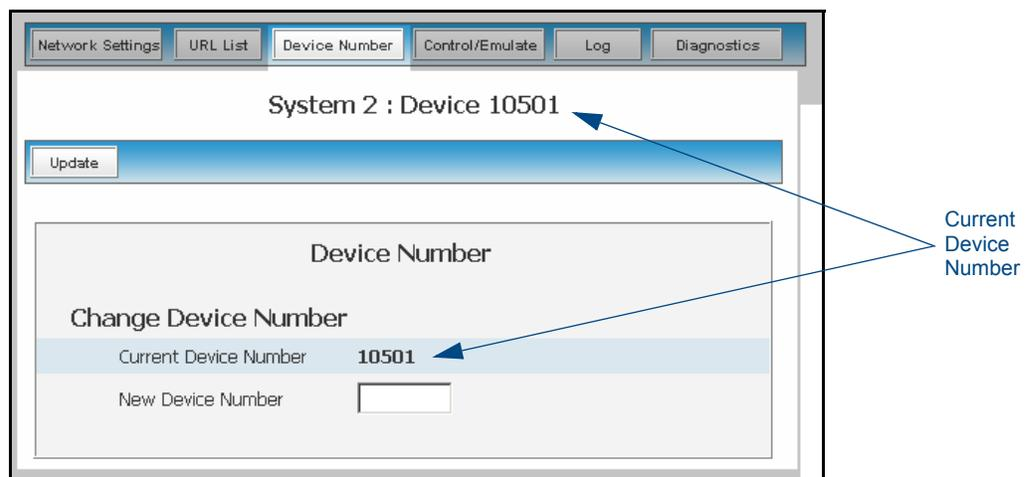

FIG. 57 Device Number dialog
3. Click the **Device Number** button to open the Device Number (FIG. 57). This dialog allows the user to change the device number for the selected device.